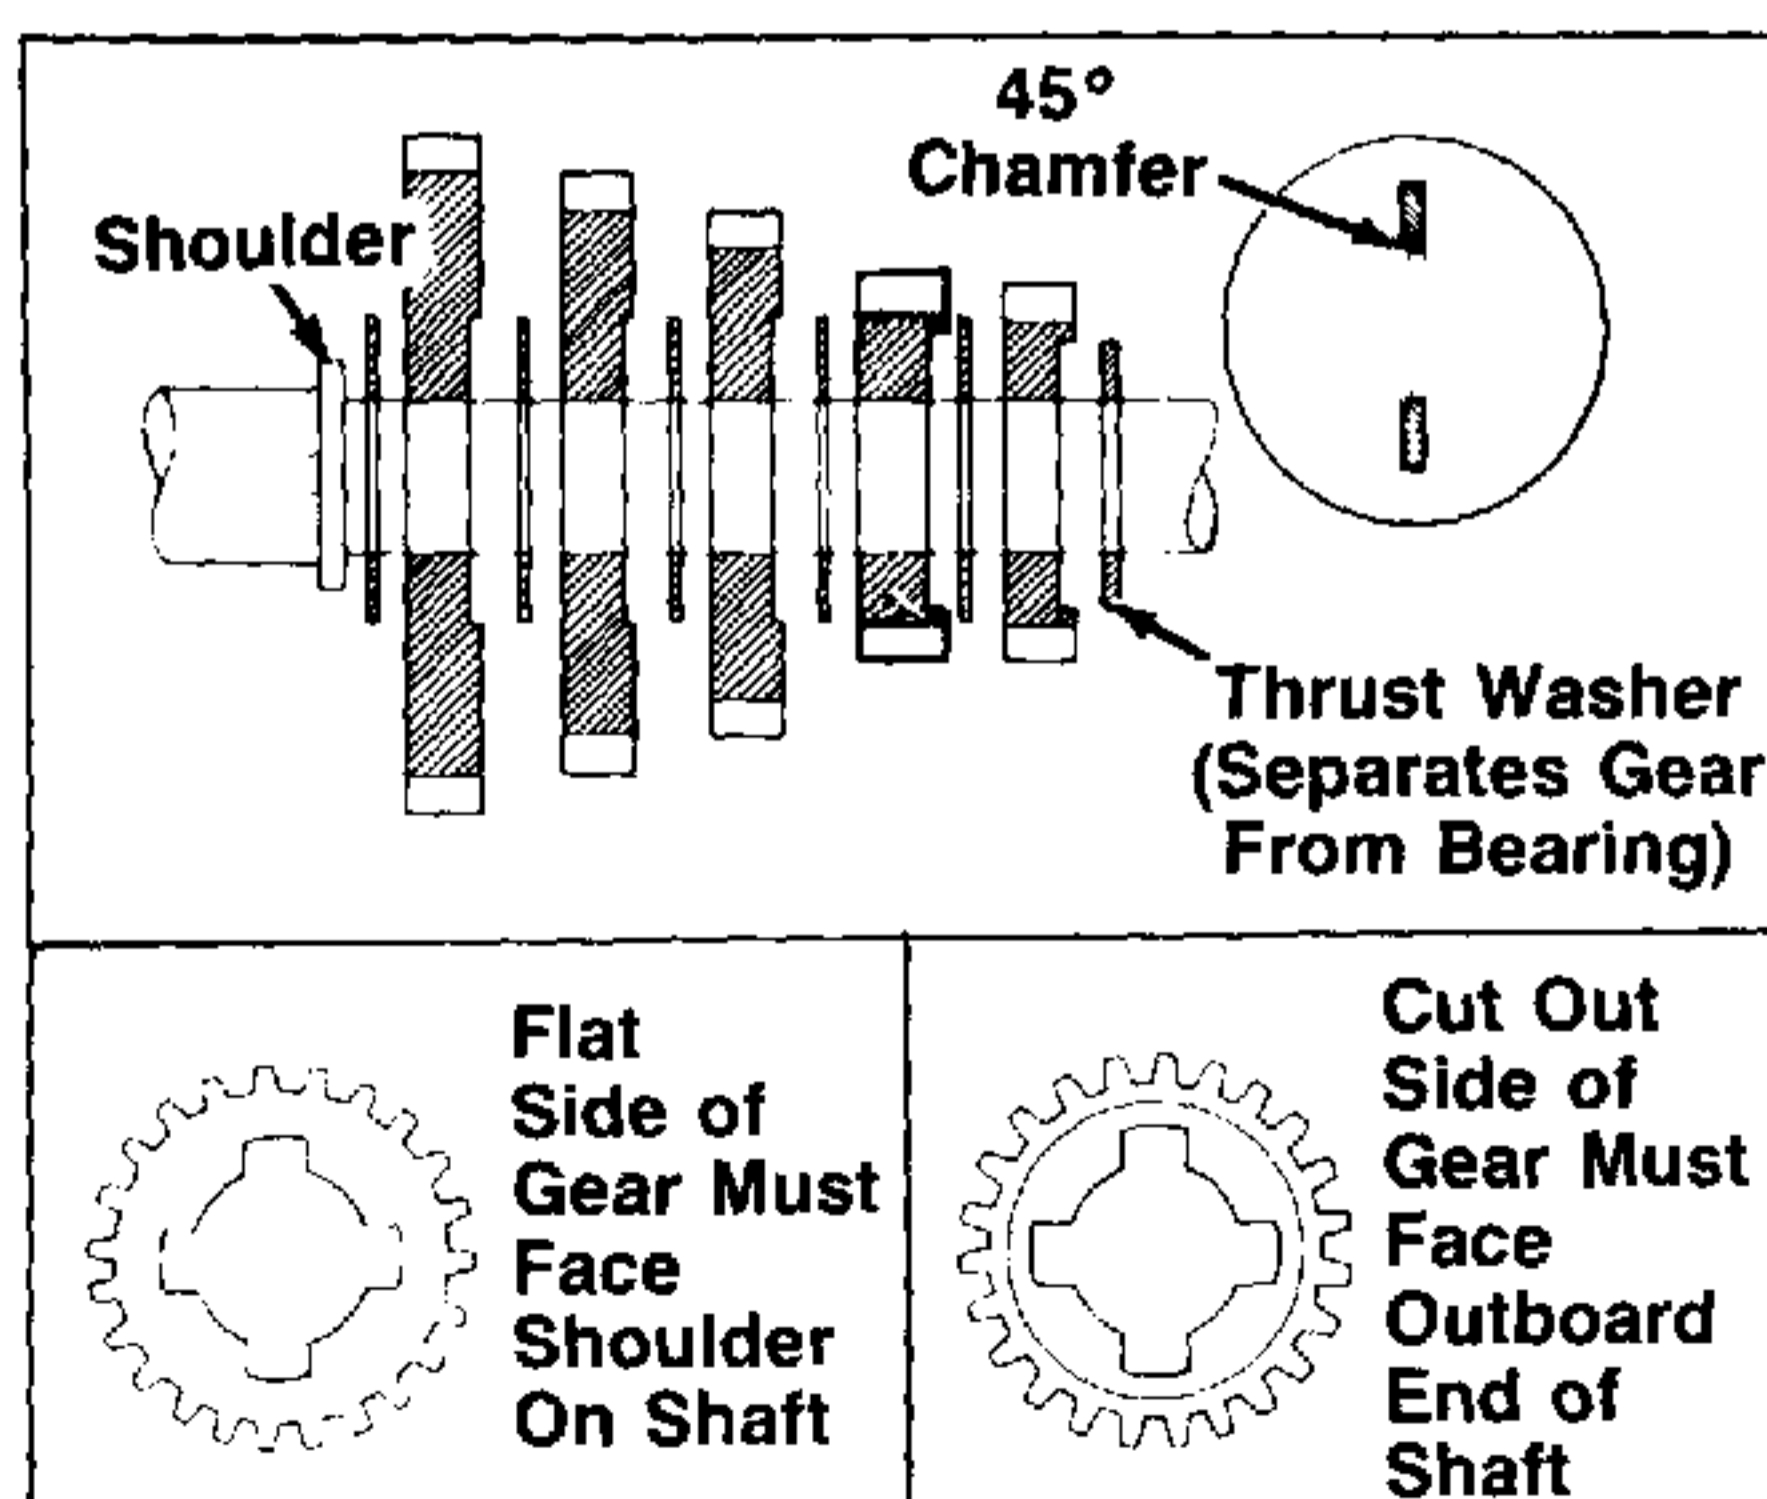

FIGURE 24.
- When ready to install thrust washers and shifting gears on shifter and brake shaft, the 45° chamfer in the inside diameter of the thrust washers **MUST** face the shoulder on the output shaft. The flat side of the shifting gears **ALWAYS** face the shoulder on the shifter and brake shaft. See figure 24.